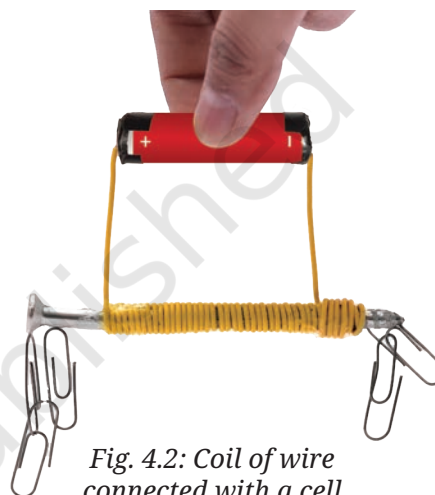

Fig. 4.2: Coil of wire connected with a cell
- Tightly wrap the wire around the nail in the form of a coil, as shown in Fig. 4.2, and secure it with an adhesive tape.